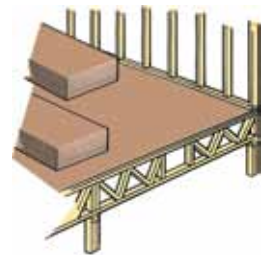

FIGURE B1-39
- ✓ Position stacks of materials flat with the longest dimension perpendicular to the Trusses as shown in Figure B1-39.